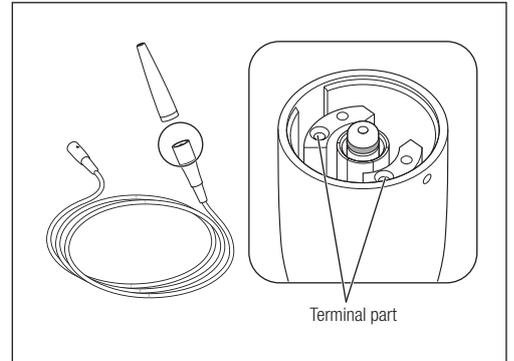

Fig. 37
- Do not use a sharp pointed stick or push the terminal part when cleaning the handpiece cord plug. Doing so may cause damage, resulting in contact failure (Fig. 37).